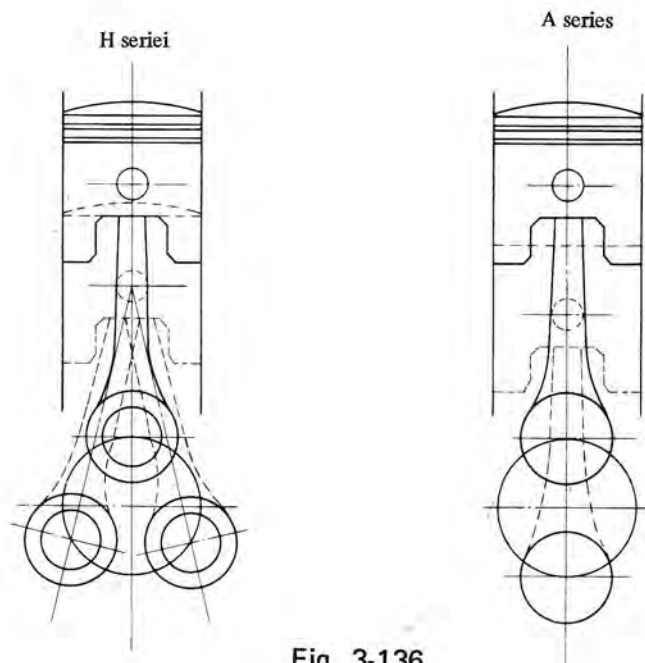

Fig. 3-136
Each connecting rod of H1 is installed at regular intervals of  $120^\circ$  against the single rotation of crankshaft (360) as shown in fig. 3-136.